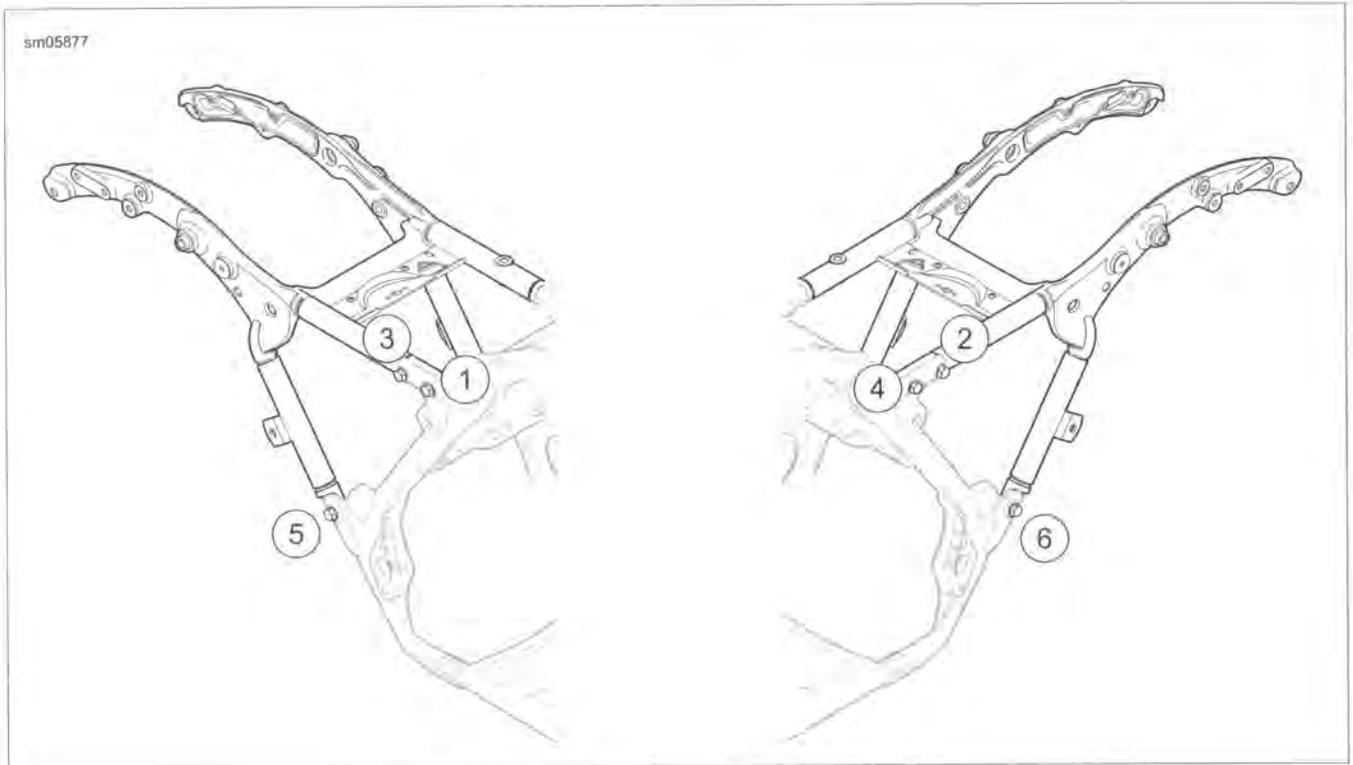

Figure 2-168. Rear Frame Torque Sequence
2. See Figure 2-168. Tighten rear frame fasteners in sequence shown to 40-45 ft-lbs (54.2-61.0 Nm).